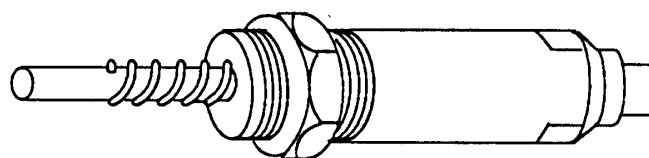

FIGURE 3 - PULLING HEAD
- 4.2.2 Pulling heads for power riveter (e.g., TS.414.04.12, Cherry H702-3NPR and Cherry H890-3). See Figure 3 for a general description of a pulling head.